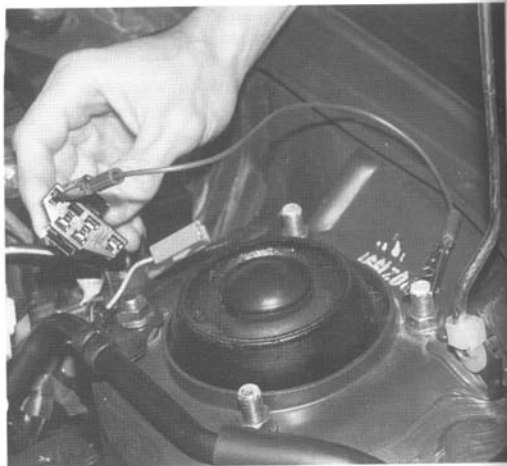

Fig. 2-2. Grounding Fuel Pump (FP) lead of Self-Test Connector to run fuel pump with engine off.
2. With the key OFF, ground the fuel pump (FP) lead of the Self-Test Connector (STC). See Fig. 2-2.